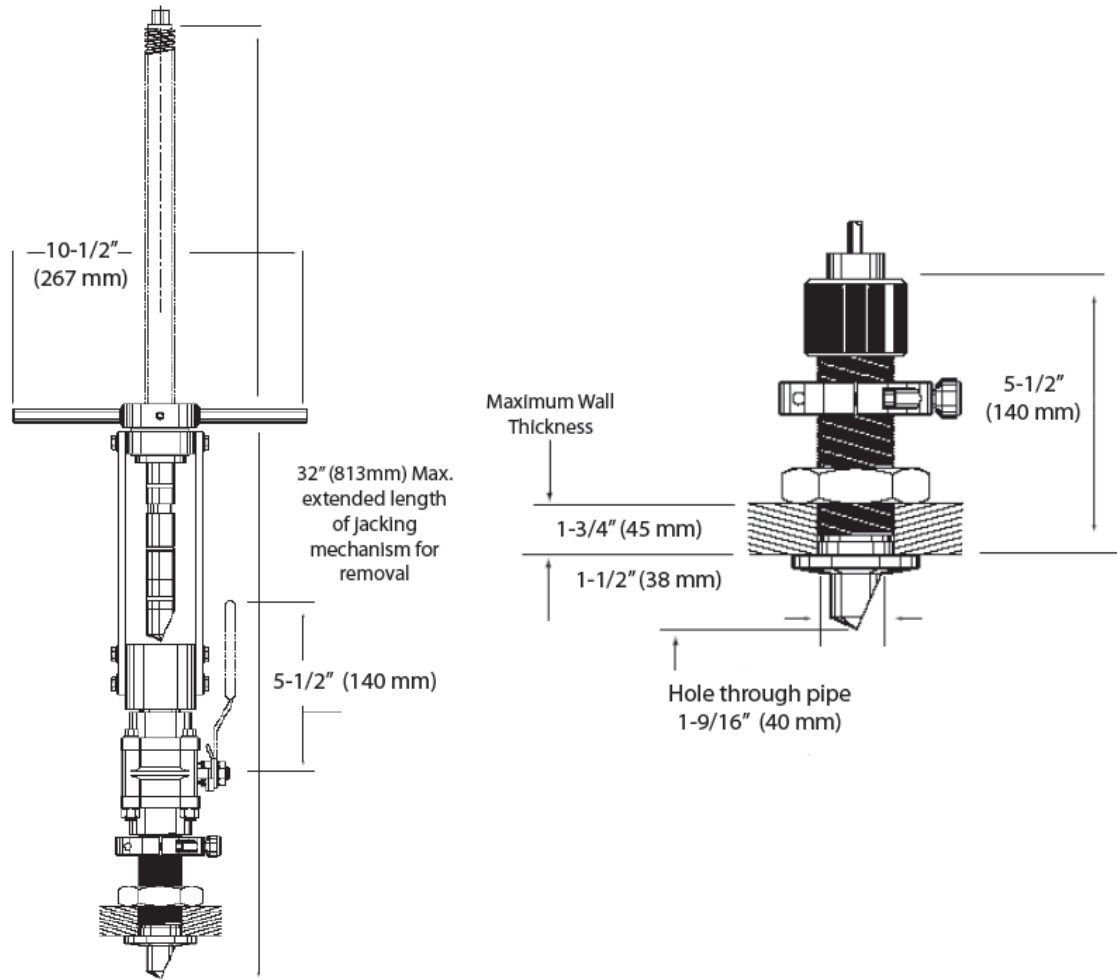

Figure 10-1 7601 Transducer Installed
16. Continue to extract the transducer just until the second O-ring on the transducer body becomes visible - about 3/4 (20mm) inch of the transducer is visible. The transducer face is now clear of the ball valve. (See Figure 10-1 on page B-12).
28. Refer to Figure 10-1 on page B-12 and verify that the following safety conditions are met. If any of these conditions are not met, there may be a safety hazard. Leave the tool in place. Try removing and reinserting the transducer, and rechecking the safety conditions. If that doesn't solve the problem, STOP WORK IMMEDIATELY and contact Accusonic for advice.
Caution: Before leaving the transducer, be certain that the locking pin is fully engaged and that the union nut and the E-O connector are installed as shown in Figure 10-1 on page B-12.